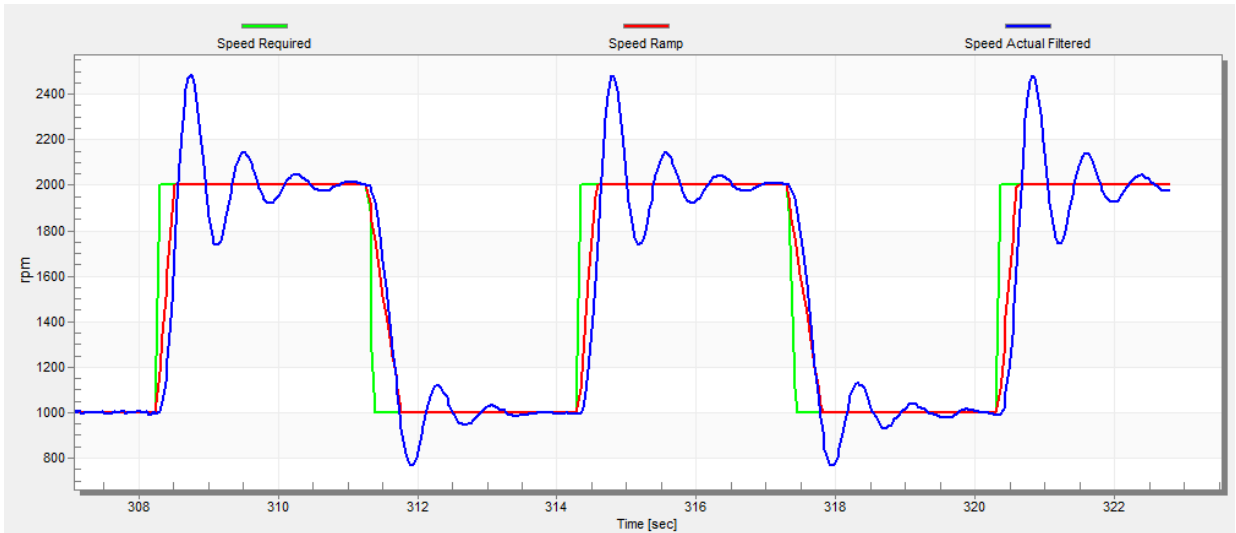

Figure 35. Speed controller response— SL_Kp value is low, Speed Actual Filtered greatly overshoots
- The “SL_Kp” value is low, the “Speed Actual Filtered” greatly overshoots, and the long settling time is unwanted (see Figure 35).